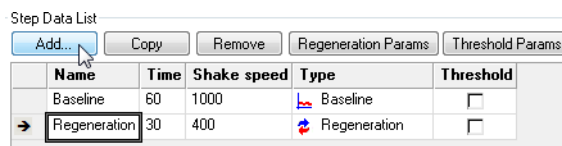
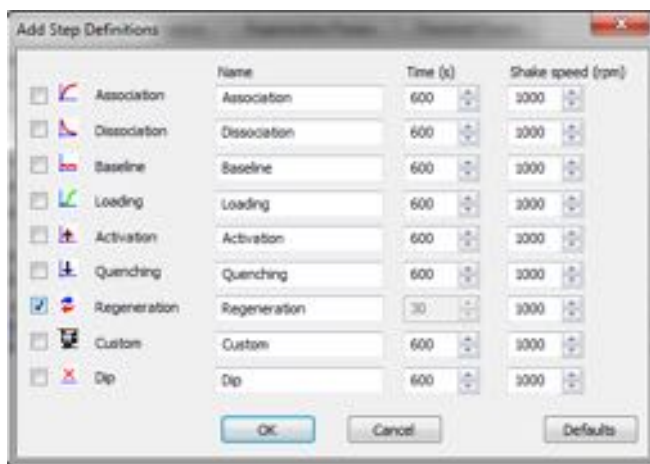

Figure 8-34: Add Button
Figure 8-35: Add Step Definition Dialog Box
2. Click **Add** (Figure 8-34) to display the Add Step Definition dialog box (Figure 8-35).